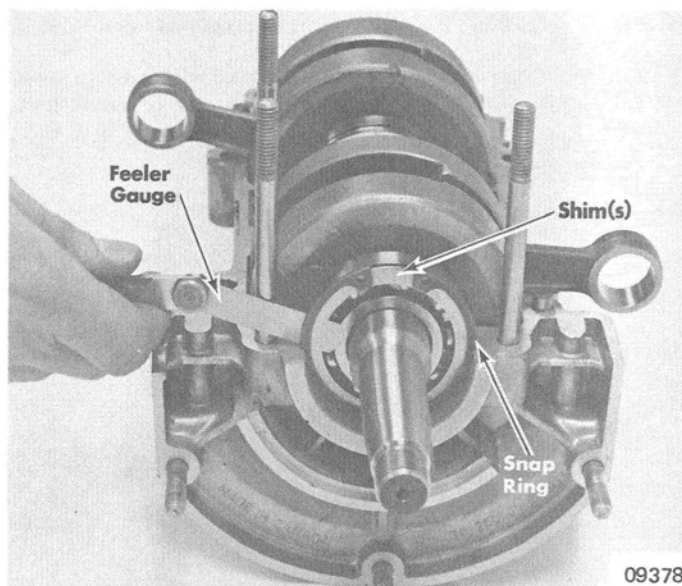

Figure 2. Checking Crankshaft End Play
5. Use feeler gauge to measure crankshaft end play between crankshaft end bearing and shims on rewind end. (Figure 2) Crankshaft end play of .006" to .012" (.15mm to .30mm) is permissible. Add shim(s) to decrease end play or remove shim(s) to increase end play.
7. Remove snap ring and shim(s) from rewind side of crankcase. (Figure 2)